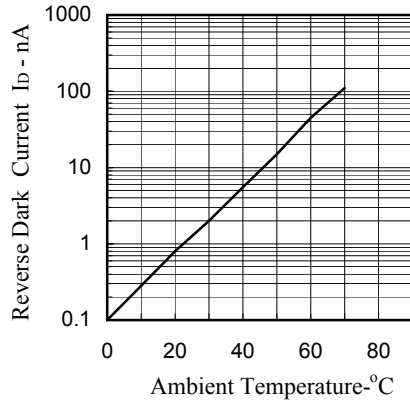

FIG.2 REVERSE DARK CURRENT VS. AMBIENT TEMPERATURE
(1).The Fig.2 temperature profile shall be at the surface of LED resin.